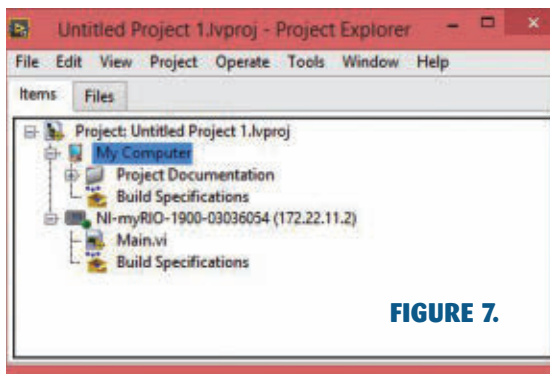
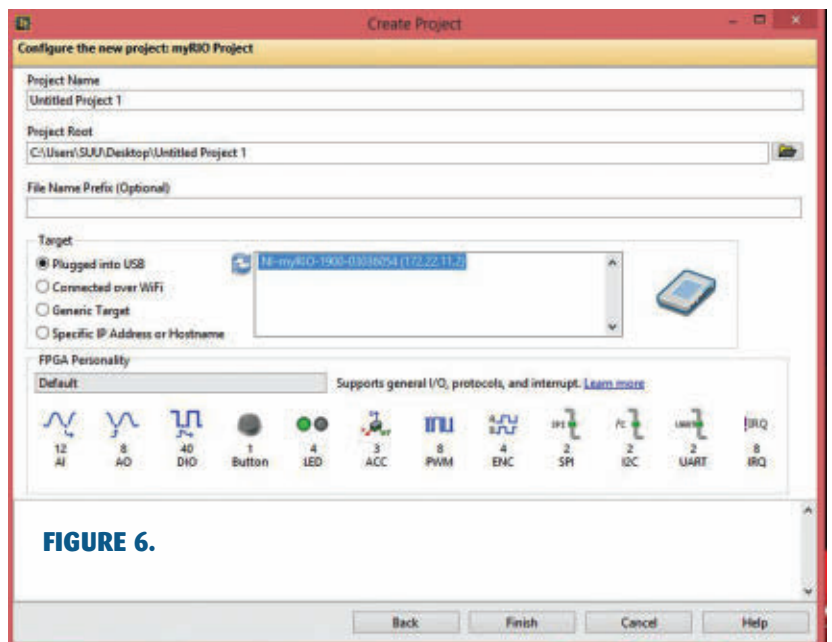

FIGURE 7.
FIGURE 6.
port — the myRIO USB monitor will pop up and give the user five options. Select the second option: Go to LabVIEW 2015 (**Figure 3**). After launching LabVIEW, you will see what's shown in **Figure 4**. From here, select Create Project. You should now see the window shown in **Figure 5**. Next, select myRIO > myRIO Project and you will see the window in **Figure 6**, and then finally check out the project view window in **Figure 7**.
■ FIGURE 6. Holes in the box before grouping.
■ FIGURE 7. Final Tinkercad design.